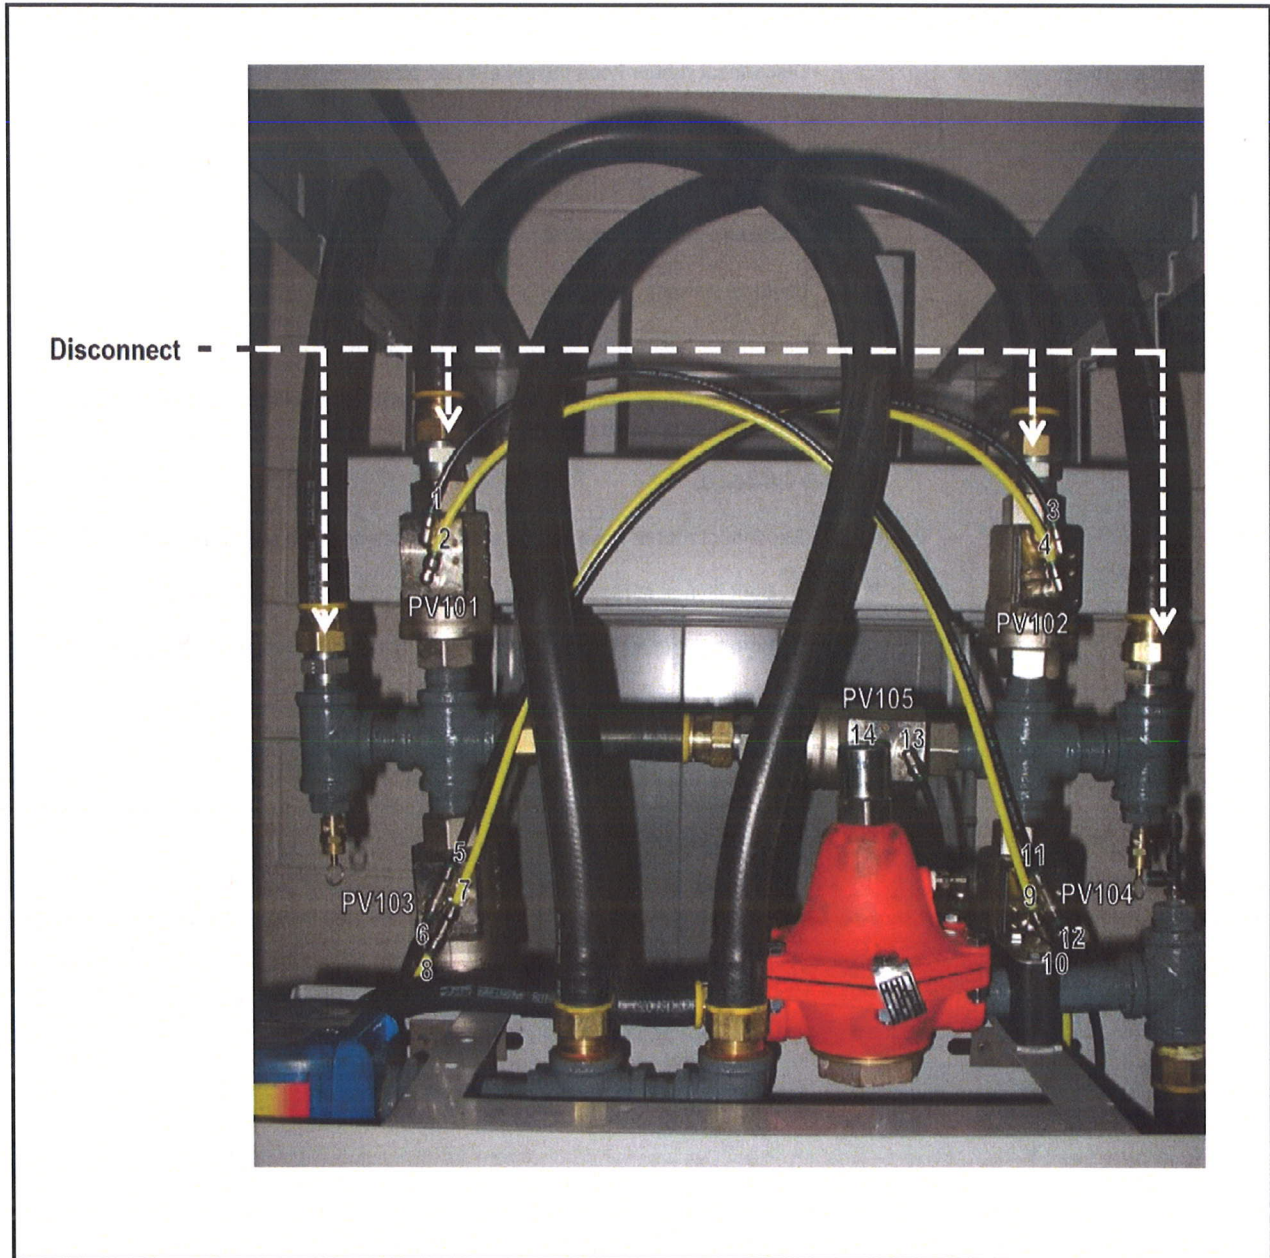

Figure 11: DB-15/20 Top Manifold - Label All Tubing Connections
- iii. Disconnect tubing from elbows and tees - all 14 (Figure 11).
- iv. Remove clamp hex bolts that secure manifold. Ensure that manifold is supported while removing clamp bolts (Figure 11).